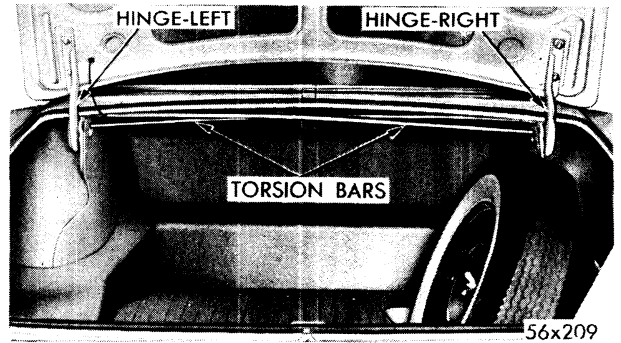
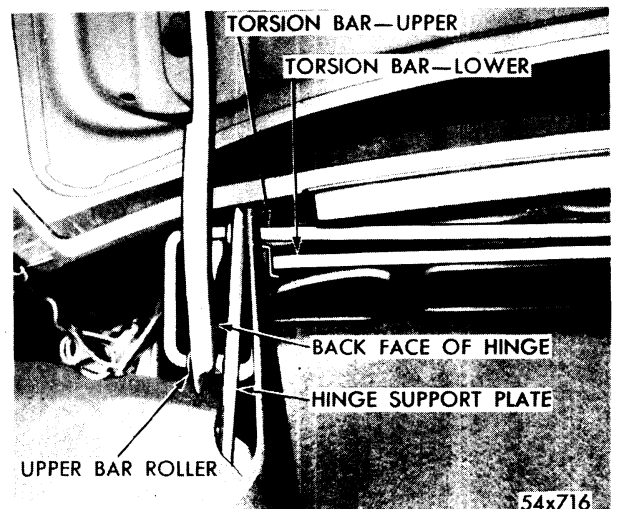
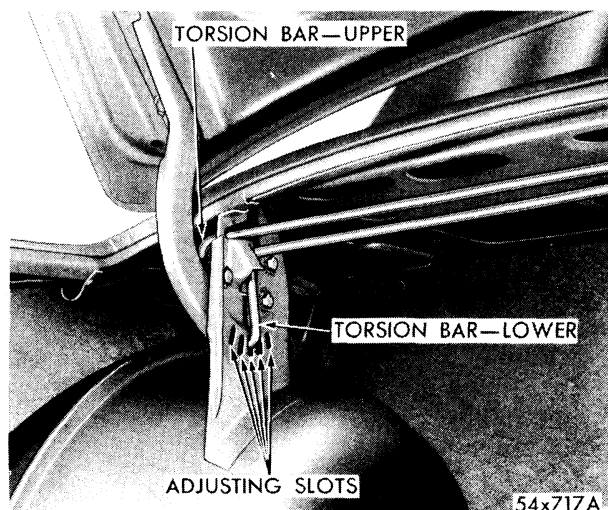

Fig. 18—Deck Lid Hinge Mechanism
Fig. 19—Torsion Bar Suspension
Fig. 20—Torsion Bar Adjusting Slots
All Chrysler cars have a balanced deck lid, made possible by a new torsion bar hinge mechanism. Lifting deck lid is accomplished with a finger tip — the weight of heavy lid is counterbalanced in all positions by spring tension of two torsion bars. (See Fig. 18.) The torsion bars are long, small diameter steel bars, that are free at one end and anchored to support bracket at other. (See Fig. 20.) A roller sleeve on free end, operates against a “cam contour” on back face of hinge. (See Fig. 19.) As deck lid is raised, action of rollers against hinges causes bars to twist, exerting a torsional spring resistance that balances lid. To permit adjustment of torsion bar tension, four slots are located in each support plate, as shown in Figure 20. To adjust rod tension, insert slot in Tool C-3445, behind lower rod, roll tool forward to disengage lower rod from bracket. **Be sure and prop deck lid in wide open position before changing adjustment, to avoid personal injury in case lid should drop.** Bend rod toward front of car to lessen tension and toward rear to increase tension. When lid has been adjusted correctly, lid should hold any position when released. The torsion bar roller ends are lubricated at factory and should require no further lubrication. However, if a new torsion bar has been installed, coat roller sleeve with Lubriplate.
**To remove a torsion bar for replacement, refer to Figure 20, and proceed as follows:**